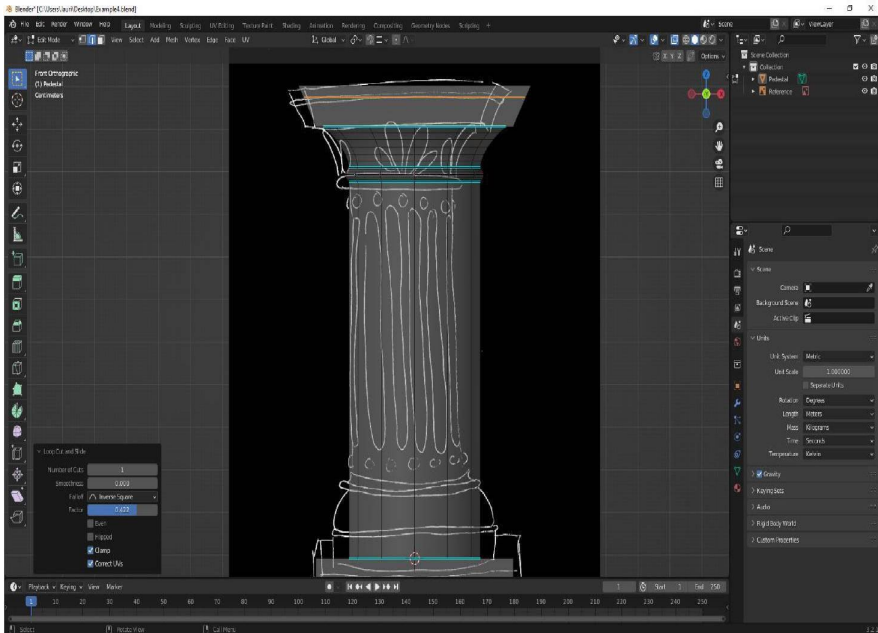

Figure 4.26: Adding an edge loop from which to create a second rounded extrusion
17. Insert a new horizontal edge loop with **Ctrl + R**, and this time, when we left-click, let's then move the mouse upward, causing the new loop to slide along the vertical edges. We want to left-click again to confirm when the new loop is in the middle of the upper third of the pedestal cap where the reference extrusion is drawn, as shown in *Figure 4.26*: